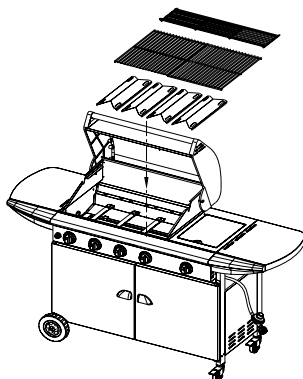

Figure 18
1. Evenly space cooking grids on the ledge above flame tamers. (Fig.18)